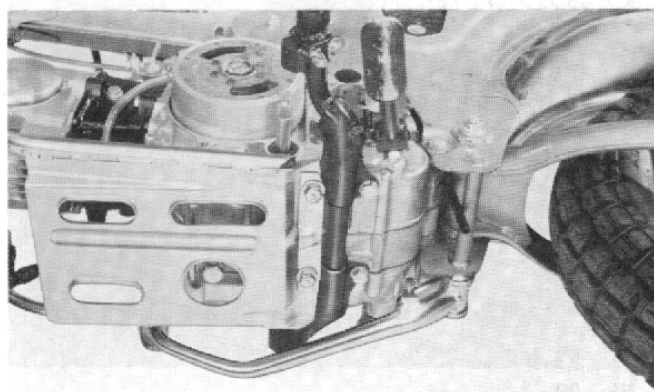

Fig. 95
- (1) Remove the rear wheel in accordance with section "Rear wheel".
- (2) Disconnect the drive chain.
- (3) Remove the 10 mm cap nuts fixing the rear cushion at the lower end.
- (4) Remove the rear fork pivot bolt by loosening the rear fork pivot nut, then the rear fork can be removed from the frame. (Fig. 95).